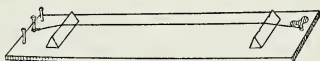

Fig. 219.
*Materials:* Commercial sonometer or a homemade one as in Fig. 219; rubber band; 3 test tubes.